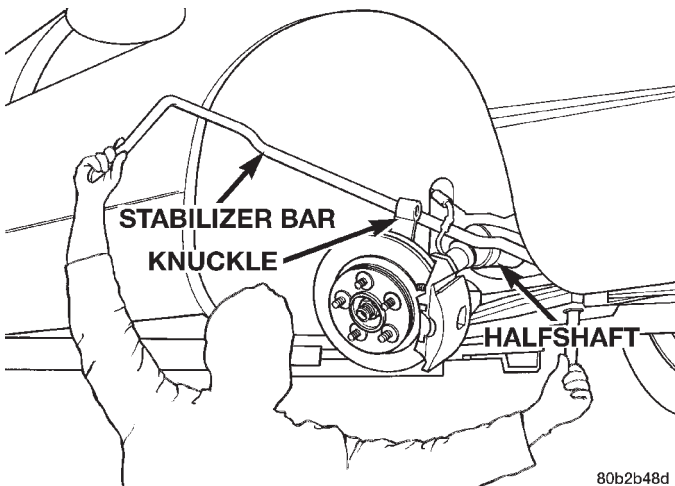

**Fig. 59 Stabilizer Bar Removal and Installation**
structural collar area between the engine and transaxle assembly. Remove the stabilizer bar out the right wheel opening by routing it in front of the right halfshaft then behind the right knuckle (Fig. 59).
(1) Install stabilizer bar by reversing the manner in which it was removed (Fig. 59). Rotate the bar the opposite direction used when removed and move it into mounting position.